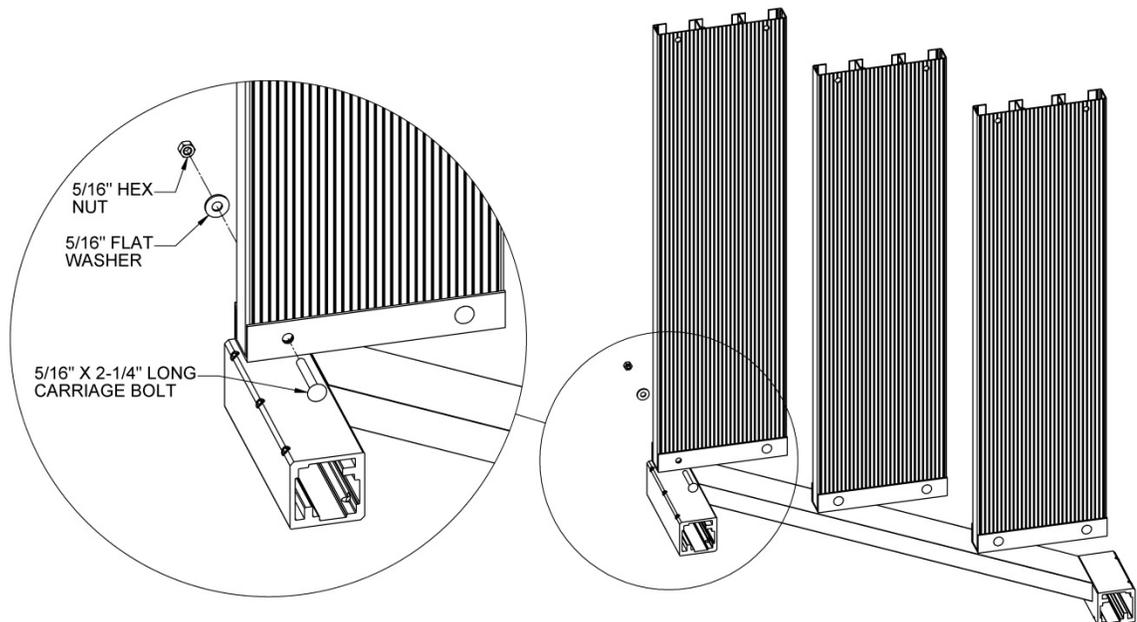

FIG. 2
- 2.2. Install 5/16"-18 x 2-1/4" carriage bolts in the holes through the top side of the right hand channel cleats. Use a rubber mallet to sink carriage bolts into holes. Install 5/16" washers and nuts onto the carriage bolts on the bottom side of the channel cleats but do not tighten fully yet (FIG. 2).